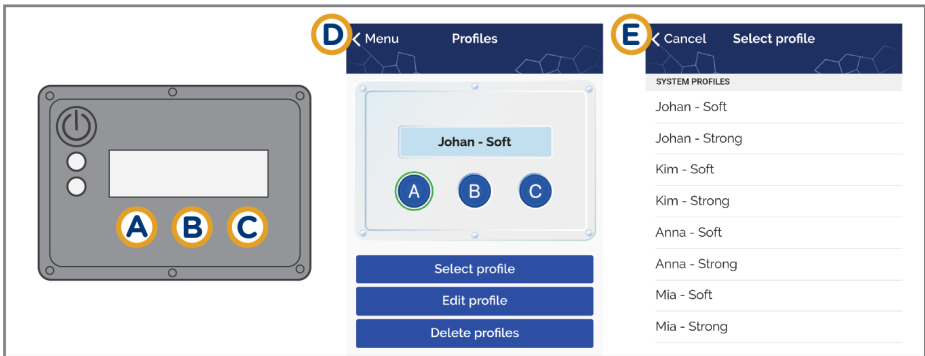

Figure 24: The Carbonhand App. To assign a profile to a button.
3. Select the button you want to assign a profile to (**A**, **B** or **C**). The selected button will be highlighted with a green circle (figure 24 D).
4. Go to **Select profile**. Select the profile you want to use with the activated button (figure 24 E).